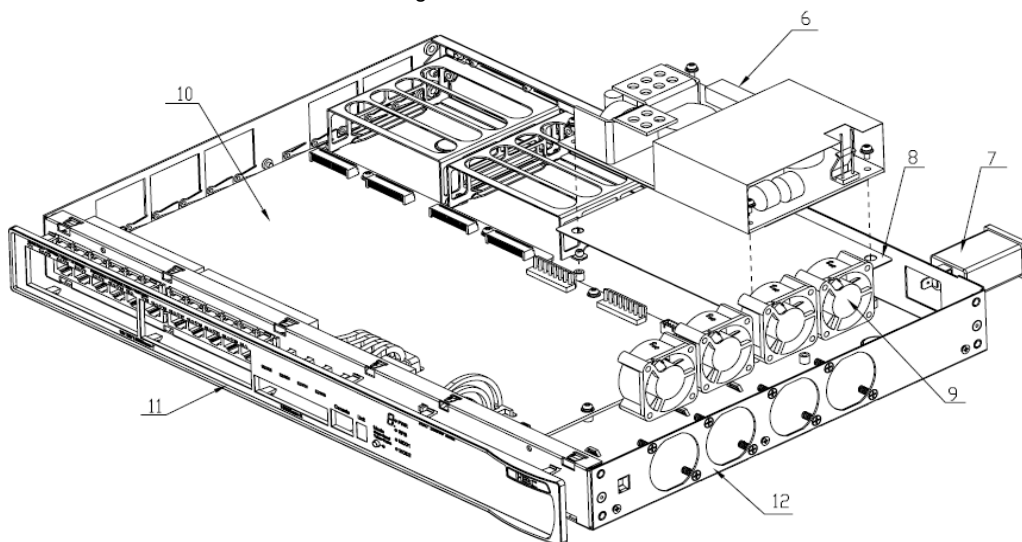

Figure 4 Treatments to the product (remove cover)
5. Unscrew the screws on cover 5, and then remove cover 5 according to figure 4;